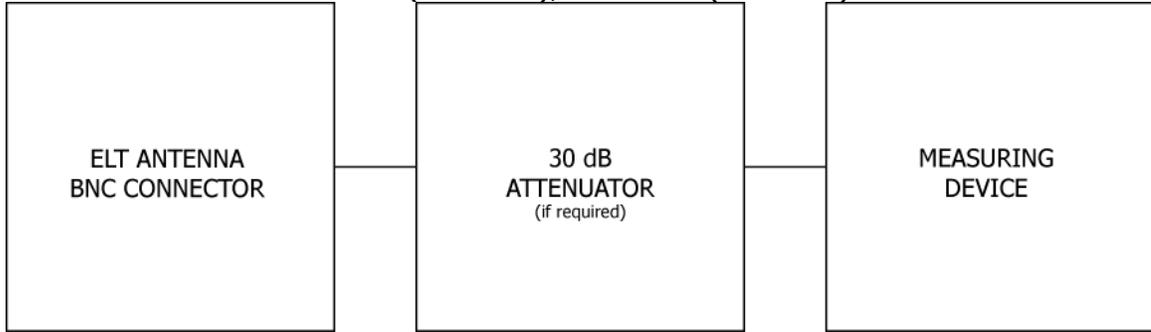

Figure 8 Performance Testing Equipment Setup
- 3) Ensure that adequate attenuation rated for 406 MHz is installed between the ELT antenna output and the measurement equipment to prevent damaging input circuitry, if required. At a minimum, the attenuator should be rated at 30 dB and 5 watts for a ½-second duration as shown in Figure 8 Performance Testing Equipment Setup.